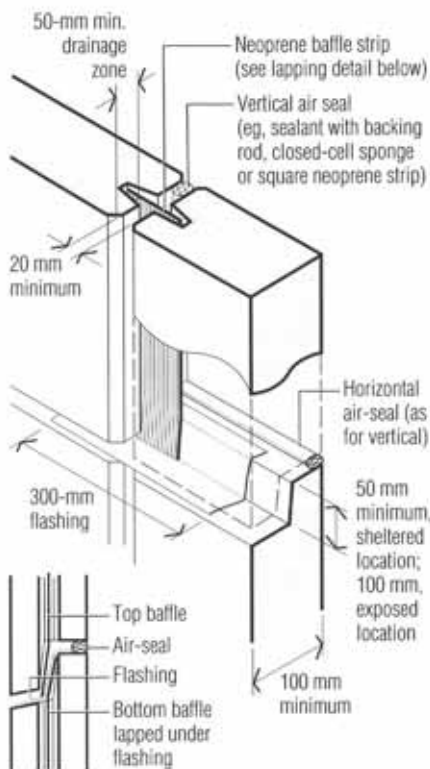

FIGURE 2 OPEN-DRAINED JOINT
**Open-drain joints** Figure 2 – this type of joint requires the incorporation of a baffle strip into a slot cast into the edges of the precast panel. Whilst effective in limiting the ingress of rain through a joint,